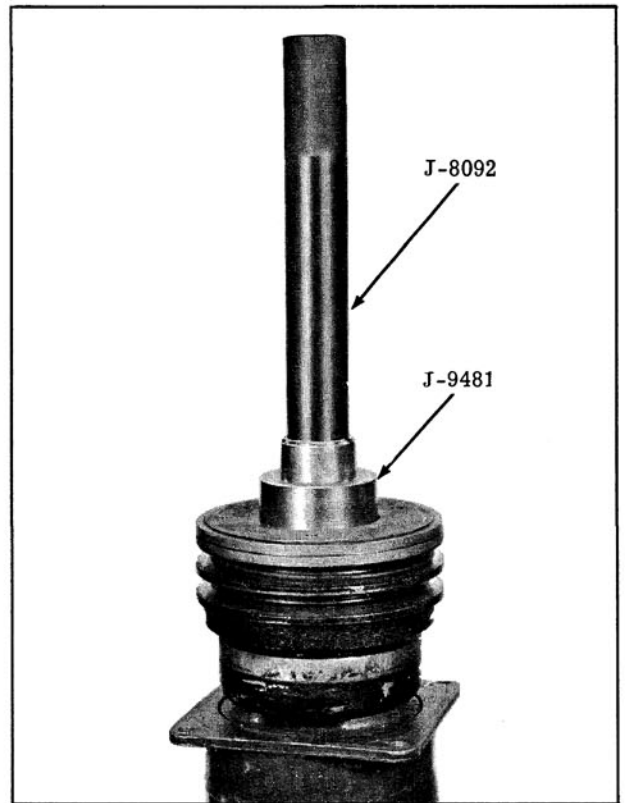

Fig. 14-84 Installing Pulley and Drive Plate on Compressor
1. Install the pulley and bearing assembly on the end of the compressor, with Tool J-9481. (Fig. 14-84) The pulley should rotate freely.